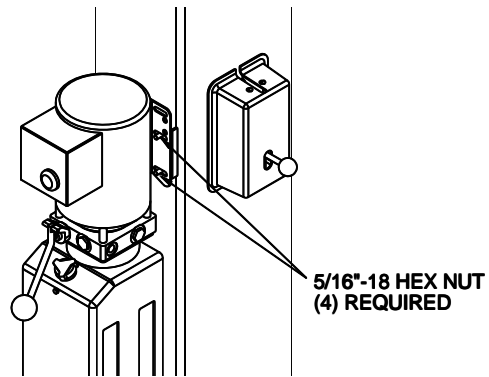

Fig 7 – Power Unit Mounting
- Mount Power Unit to power column as shown in **Fig 7**. The mounting hardware, (4) 5/16"-18 hex nuts, are pre-installed on power unit mounting bracket.